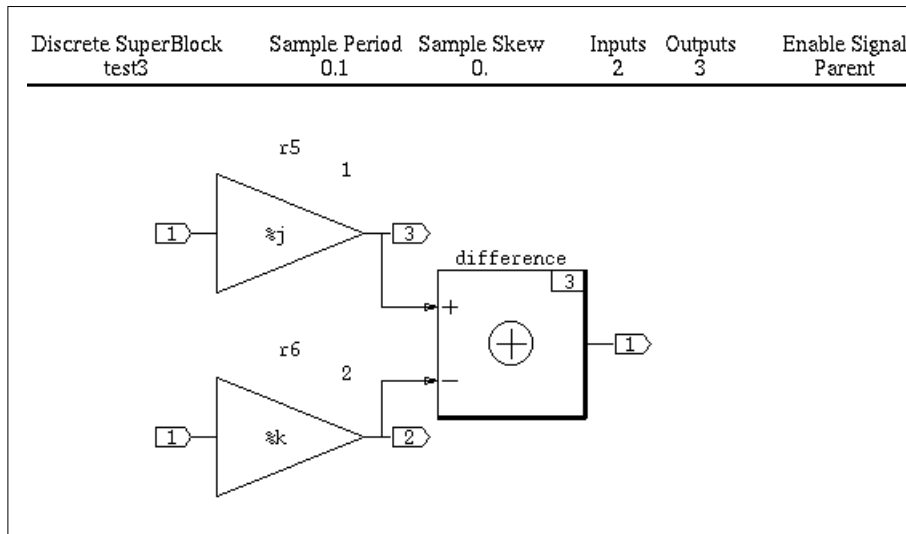

FIGURE 15-17 Gain Block Radix Example
1. Create a new SuperBlock and name it test3. Make it discrete and accept the default Sampling Interval of 0.1. We will set the datatypes later. Start building the model shown in Figure 15-17.
1. Display the model from Figure 15-17 on page 15-34.